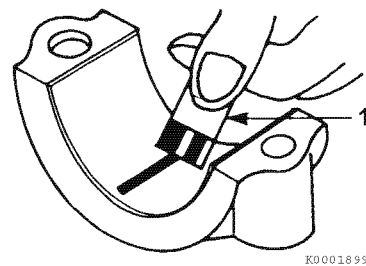

Figure 6-54
7. Compare the width of the flattened PLASTIGAGE (**Figure 6-54, (1)**) to the graduation marks on the package. The mark that most closely matches the width of the flattened PLASTIGAGE will indicate the bearing oil clearance. Record the measurements. See *Crankshaft on page 6-8*.